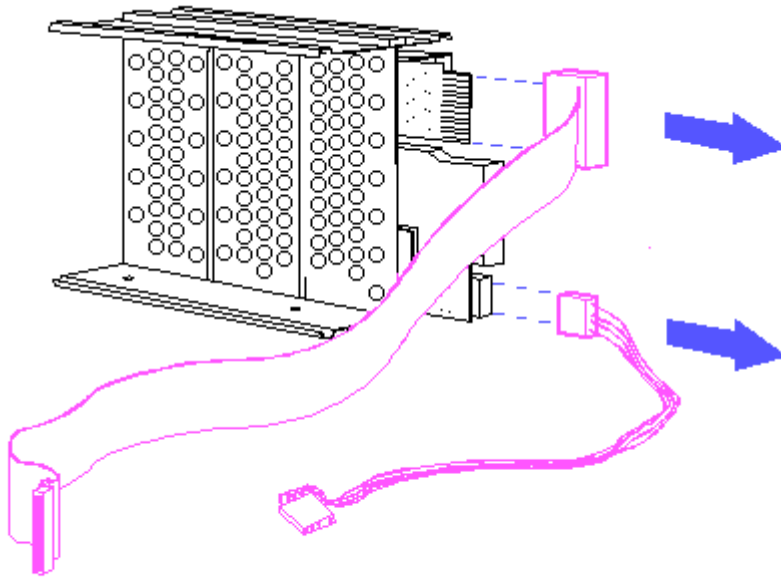

Figure 8-48. Disconnecting the Diskette Drive Cables
5. Disconnect the diskette drive power and signal cables from the diskette drive (Figure 8-48).